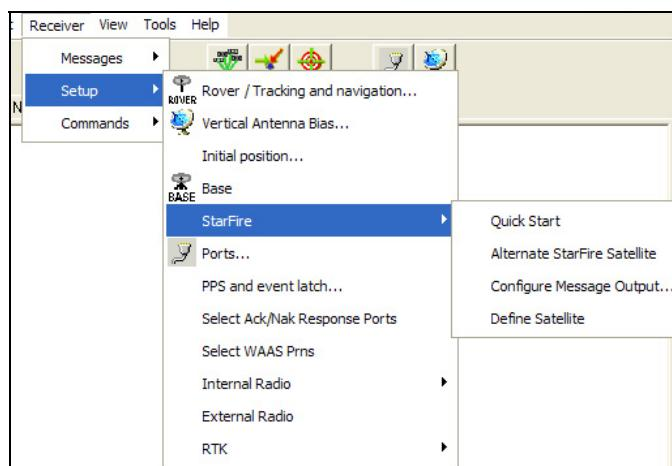

Figure 73: StarFire™ Menu
- *StarFire™ Menu* (see Figure 73):
The StarFire™ menu options (see Figure 73), which are described in more detail below, are: